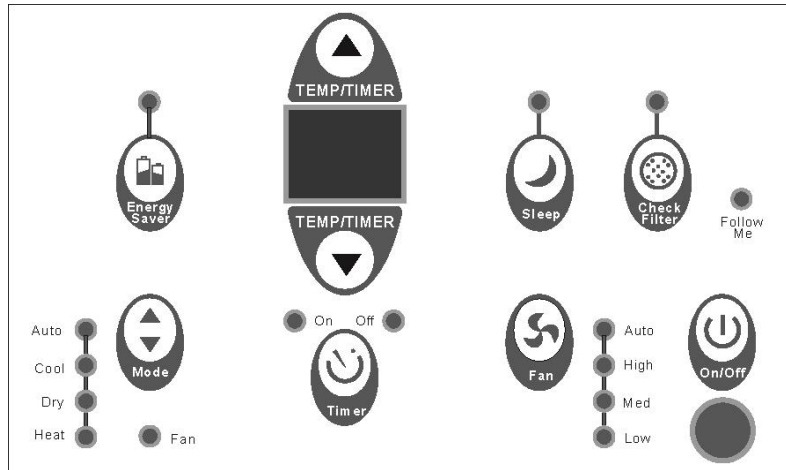

**Fig.14**
2. Attach the right safety lock. (Figure 14)